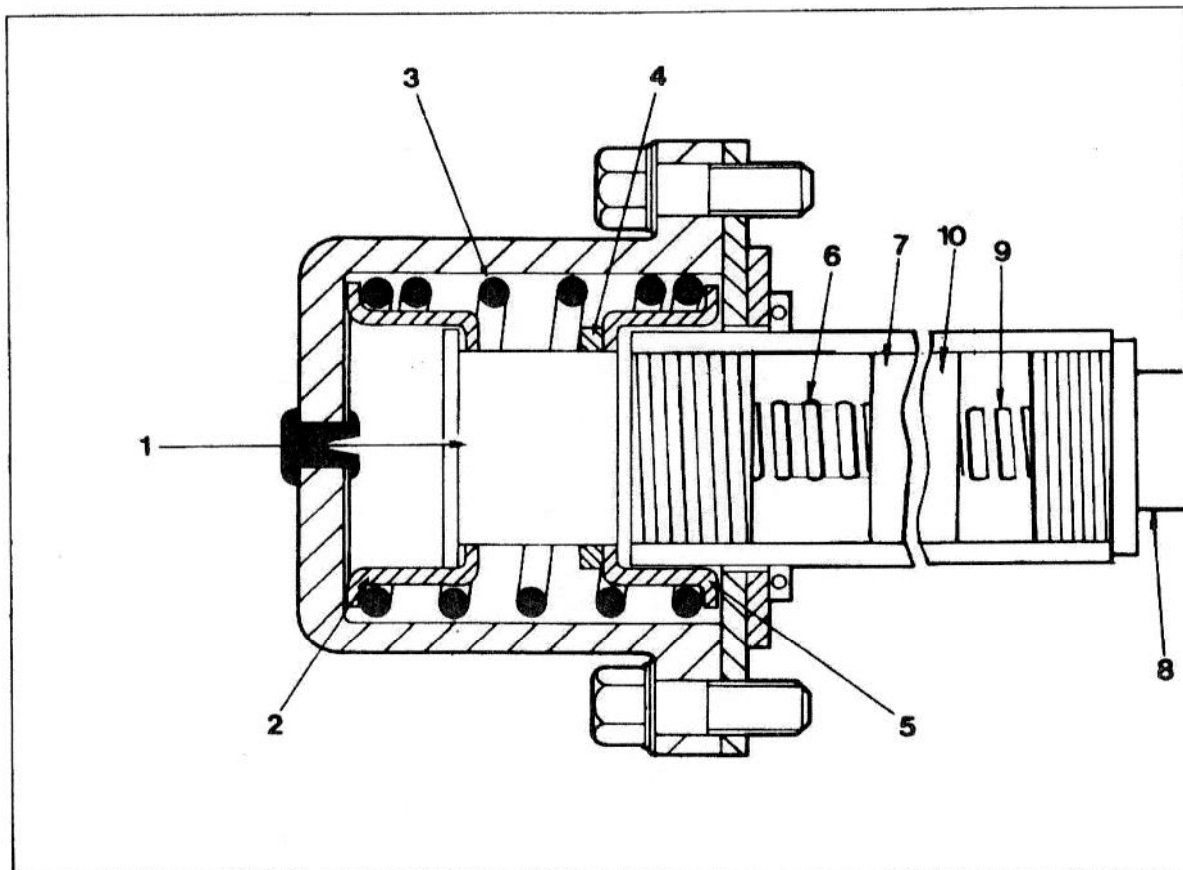

FIG. 11
1. (Fig. 11). Place the spool in a vice which is equipped with soft jaws and unscrew the cap (1).
2. Remove the retainer (2), spring (3), spacer (4) and retainer (5).
3. Extract the spring (6) and check valve (7) from the inside of the spool. Mark the spring and its respective bore.
4. Remove the spool eye (8) from the other end of the spool and extract the spring (9) and check valve (10) from inside the spool. Mark the spring and its respective bore.
2. (Fig. 11). Replace the check valve (10) and spring (9). Ensure that they are in their correct bore, then replace the spool eye (8).
3. Replace the check valve (7) and spring (6) in the other bore.
4. Fit the retainer (5), spacer (4), spring (3) and retainer (2) to the spool.
5. Secure the centering device assembly with the cap (1).